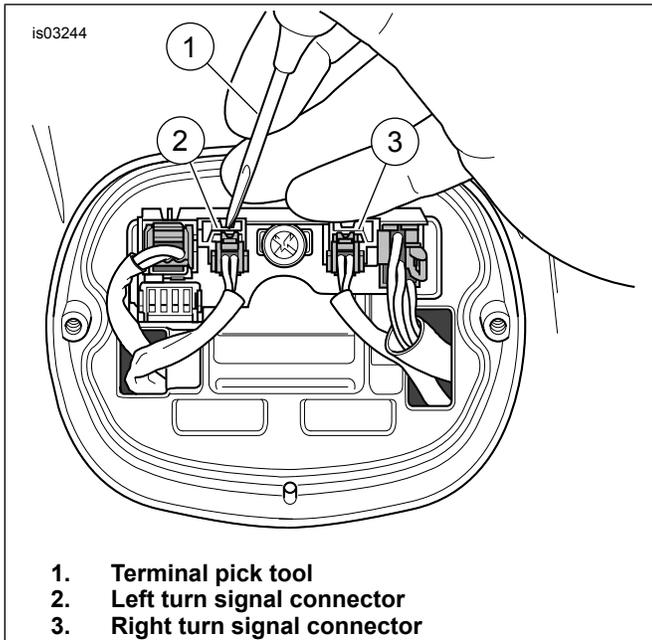

Figure 3. Remove Turn Signal Connectors
4. See Figure 3. Using a Terminal Pick Tool (1), depress locking tabs and disconnect turn signal connectors (2-place) (2, 3) from circuit board.